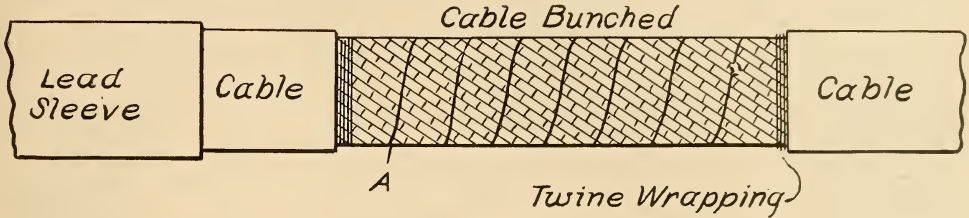

FIG. 5.
When all the joints have been made, "bunch" them together and boil them out with hot paraffine, have at hand narrow strips of manganese tin about two inches wide and wrap as shown in Fig. 5 at (A), and boil out the joint with hot paraffine. Now wrap a full layer of tape over the joint and boil out, being careful to pull the tape tight. There should be three such layers put on and boil out each layer as you put it on. Fig. 5 shows how the cable should look after all the joints have been made and with the joint pulled in.